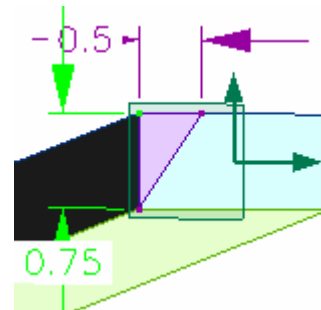

Figure 9. Dovetail notch triangle profile.
21. Draw the valid notch triangle for the notch as shown in figure 9.